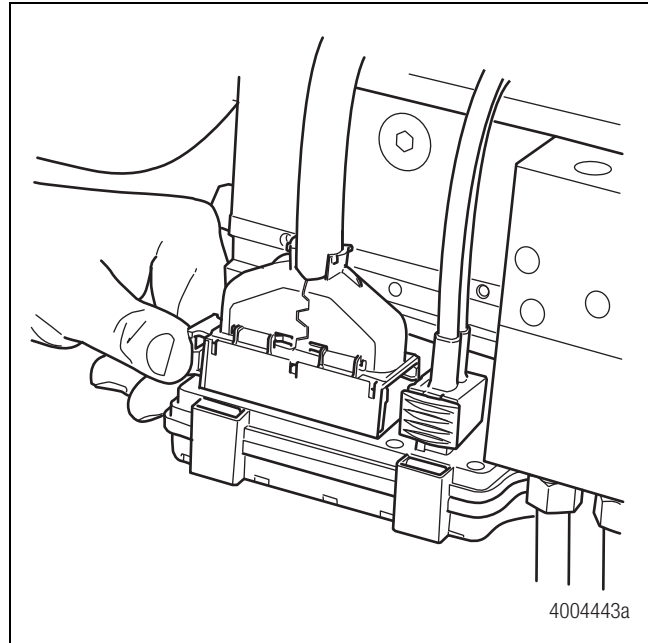

Figure 4.8
8. Attach the 31-pin harness and then the two-pin power connector to the ECU. Push the latch into position to lock the connection. Figure 4.8.